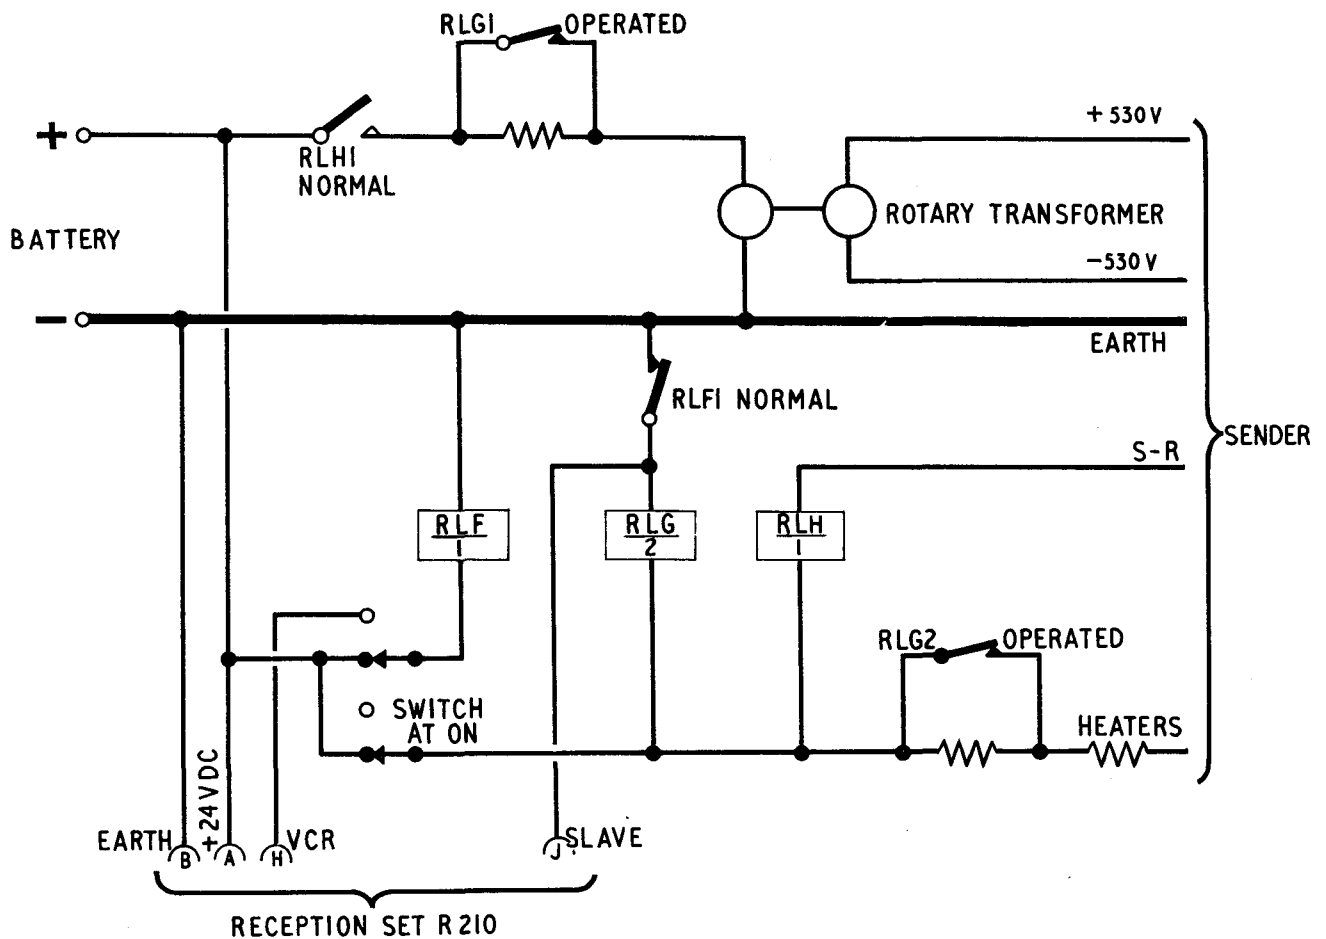

FIG.16 VOLTAGE CONTROL CIRCUIT (BATTERY VOLTAGE IN LOW RANGE)
- (p) Contact RLC3 closes. This energises relay RLB, and also, except when the system switch is at CW, relay RLH in the DC power supply unit. Relay contact RLH1, shown in fig. 16 on page 25, closes and the rotary transformer starts running.
Now assume that the battery voltage is falling, and refer to fig. 16. When the battery voltage drops below the lower limit of the high range, the close margin voltage control relay RLF restores to normal and its contact RLF1 closes to earth relay RIG.